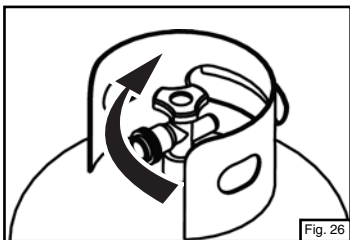

Fig. 26
- Check that the cylinder valve is closed by turning the cylinder knob clockwise to a full stop (Fig. 26).